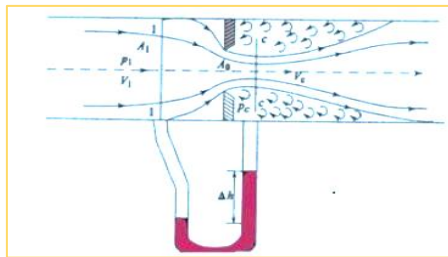

Figure 2. Orifice meter
- Start the pump, operate the valves as shown in Figure 2.